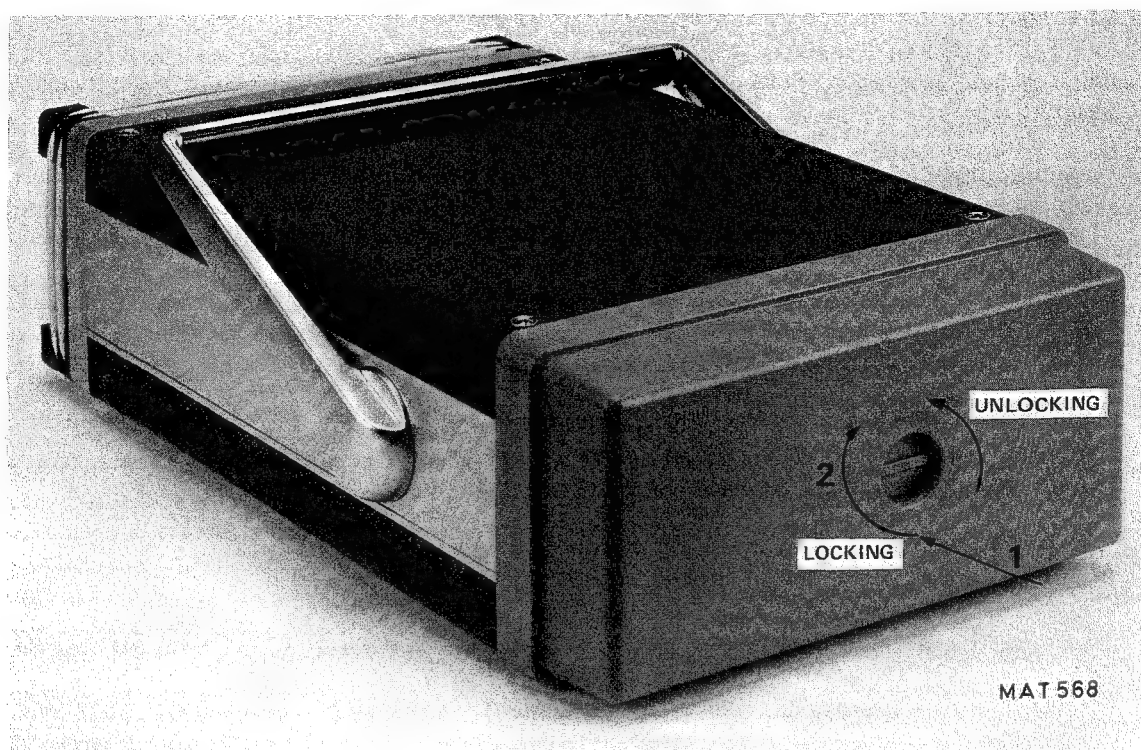

Fig. 2.1. Removing Front Cover
2.2. REMOVING AND FITTING THE FRONT COVER (see fig. 2.1.)